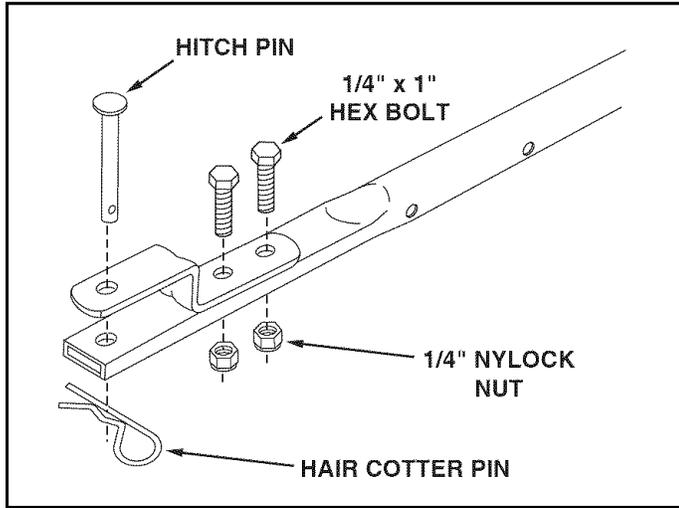

FIGURE 5
- Assemble the hitch bracket to the top of the hitch tube using two 1/4" x 1" hex bolts and 1/4" nylock nuts. See figure 5.
- Assemble the hitch pin through the hitch bracket and the hitch tube and secure with the hair cotter pin. See figure 5.